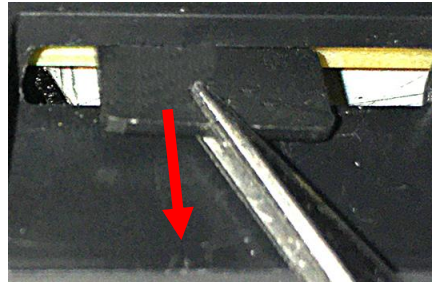

Figure 34
34. If necessary, use tweezers to remove the SD card (see Figure 34) from the old controller.